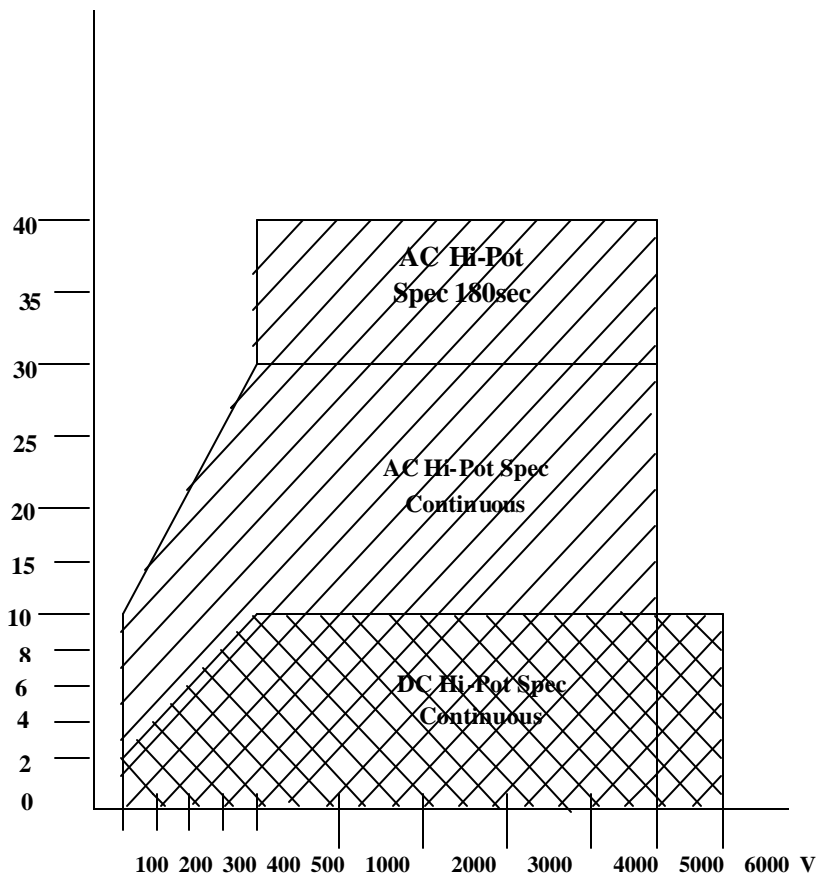

Figure 2-1
- \* The main purpose provided by the series of instruments is for Puncture Testing. The specification is not for continuous test. The temperature of heat-sink is monitored. The test procedure will stop if the heat-sink is too hot. Please refer to Figure 2-1.